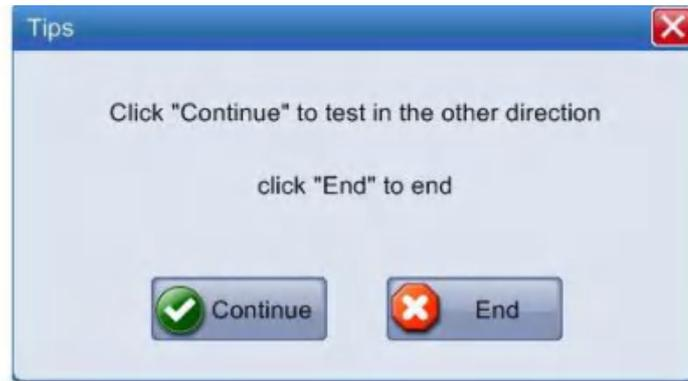

Figure 5-17 Adjusted image of the dial test indicator
- Click “OK” to go back to the main window and adjust the image and align the pointer with zero. See figure 5-17.